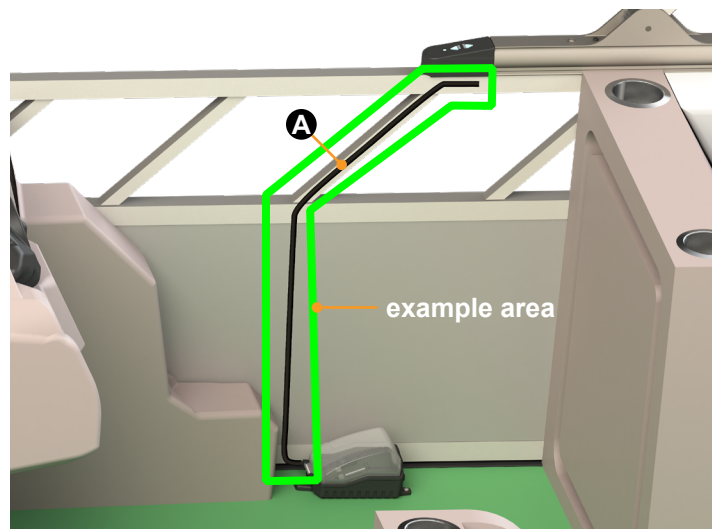

Fig.17
4. Dry-fit the power cord and foam tubing (Fig.17A) from the battery receiver, up the fence, along the side of the railing and through the side wire access hole to the touch controller. See figure 17 for example area.